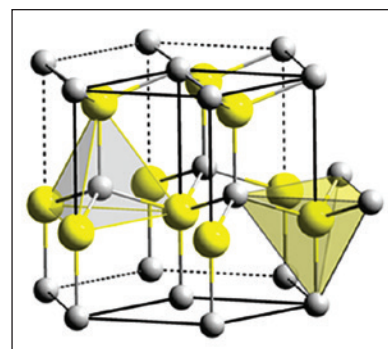

Figure 1: Wurtzite structure. The large balls represent Zn and the smaller balls represent oxygen.
First, varistors are a ceramic material composed primarily of zinc oxide (ZnO). At ambient conditions, ZnO crystallizes into a hexagonal wurtzite structure, as shown in Figure 1, where the large balls represent Zn and the small balls represent oxygen (O). This is a complicated structure that, if it crystallized perfectly, would be an insulator. But because the crystallization process isn't perfect, the resulting oxygen vacancies or zinc interstitials cause this structure to become a wide-gap semiconductor having a relatively low resistivity of 1 – 100 Ω -cm at room temperature.